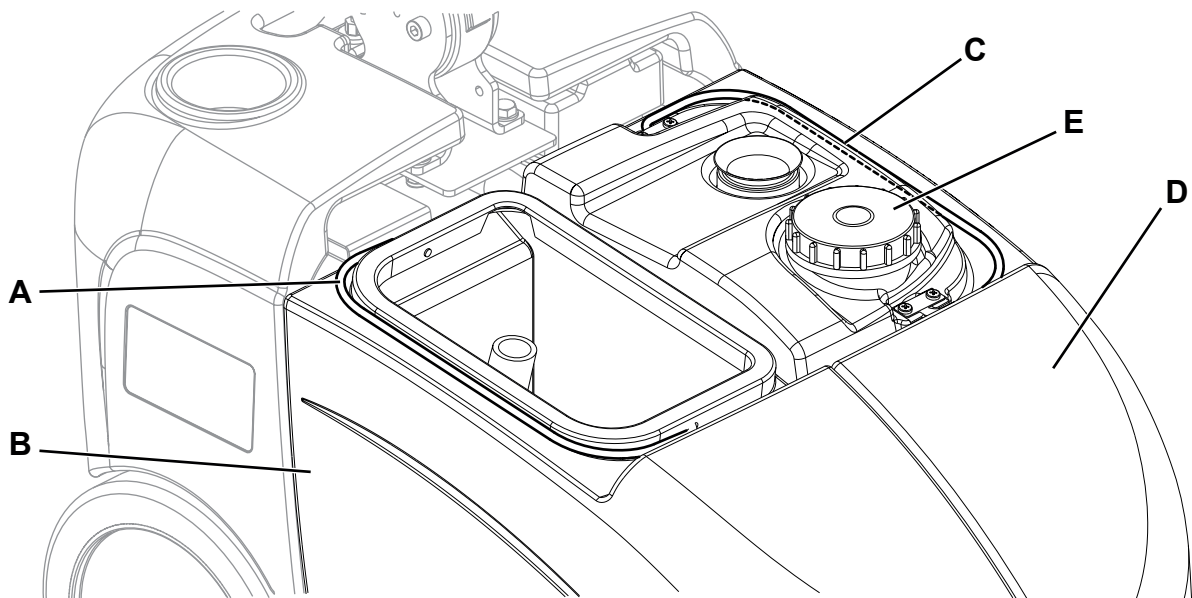

Figure 4
1. Check that the function selection knob (31) is turned to "0".
3. Remove the transparent cover (24).
4. Grab the handle (A, Fig. 4) and lift the recovery tank (B).
8. Grab the handle (C, Fig. 4) and lift the solution tank (D).
9. Open the plug (E) and drain the solution tank. Then, rinse the tank with clean water.